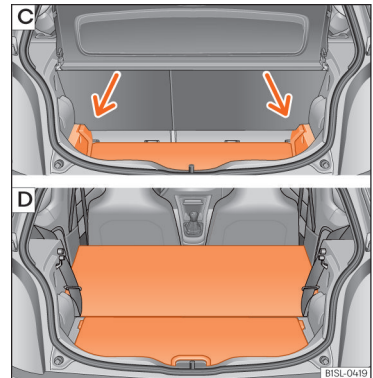

Fig. 138 C: extend the boot downward. D: extend the boot forward.
- Raise the boot floor and push it downward in the rail »» **Fig. 138 C** (arrows)